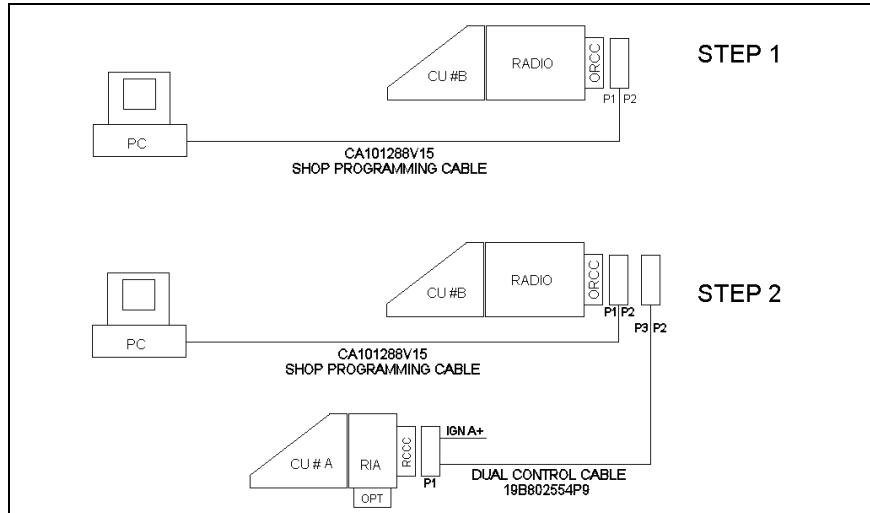

Figure 22 – M7100^{IP} Dual Control Unit PC Programming Configuration
1. Connect the M7100^{IP} Front Mount Radio with ProGrammer Assembly, as shown in Figure 22, Step 1. Program the radio with the following control configurations:
2. Connect the Front Mount Radio and the Auxiliary Control Unit together with ProGrammer, as shown in Figure 22, Step 2. Program this configuration with the following files: